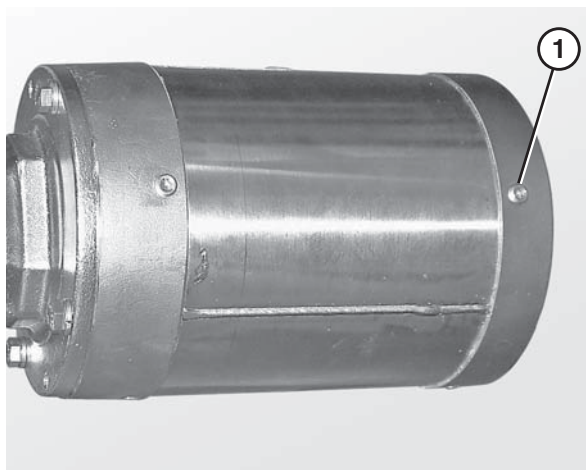

Figure 13
8. Remove the drainage plugs (Figure 13, item 1) on the bottom side of the motor.
7. Remove the drainage plugs (Figure 13, item 1) on the bottom side of the motor.